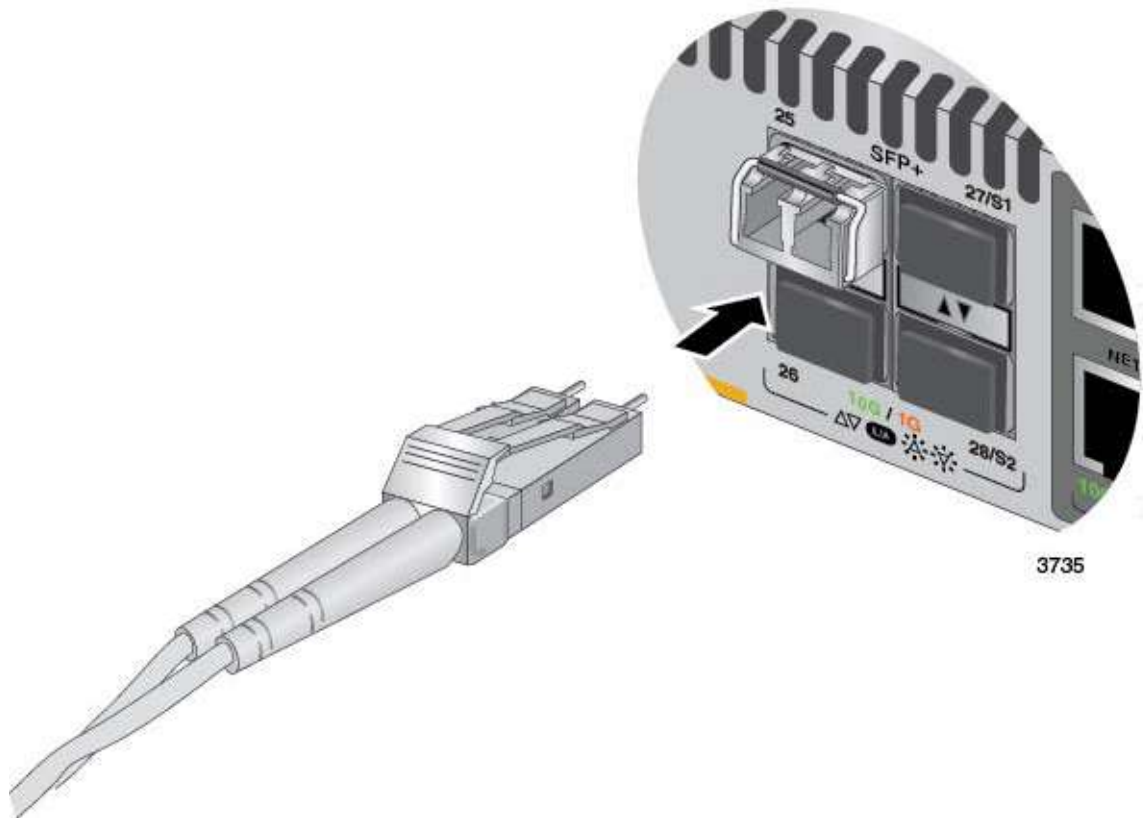

Figure 76. Connecting a Fiber Optic Cable to an SFP or SFP+ Transceiver
7. Connect the fiber optic cable to the transceiver, as shown in Figure 76 on page 140. The connector on the cable should fit snugly into the port, and the tab should lock the connector into place.